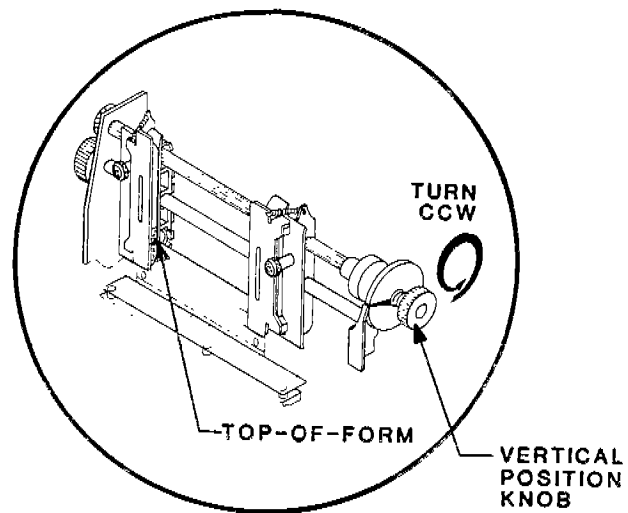

FIGURE 2-5
4. Turn the Vertical Positioner Knob to place the first line to be printed or the first line of the form (physical TOF) opposite the Top-of-Form mark, as shown in Figure 2-5.